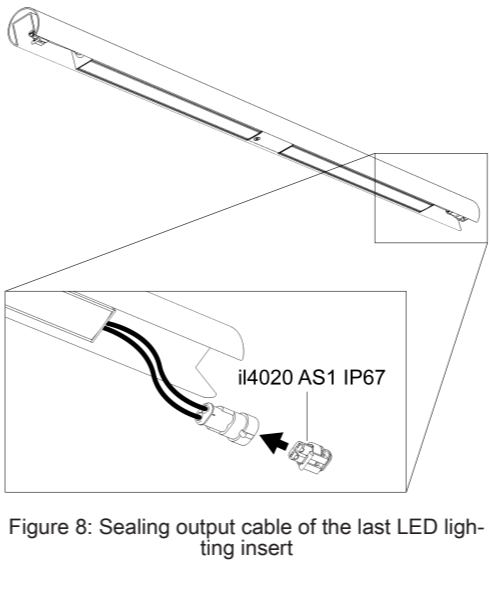

Figure 8: Sealing output cable of the last LED lighting insert
- Seal output cable of the last LED lighting insert (Figure 8).